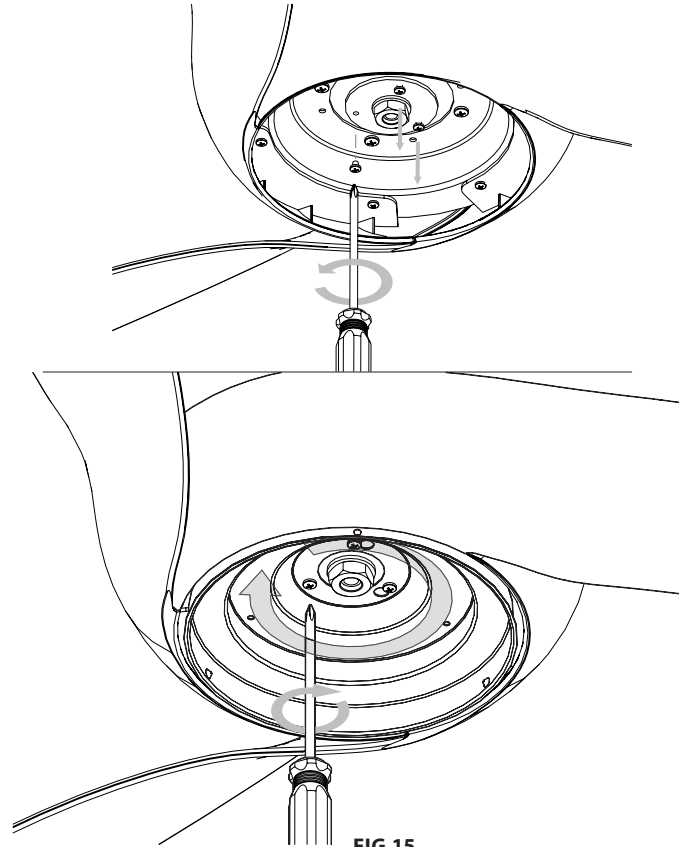

FIG.15
2. Place key holes in the adapter plate over the 2 screws previously loosened from the mounting ring. Turn the adapter plate until the adapter plate locks in at the narrow section of the key holes (**FIG.15**).